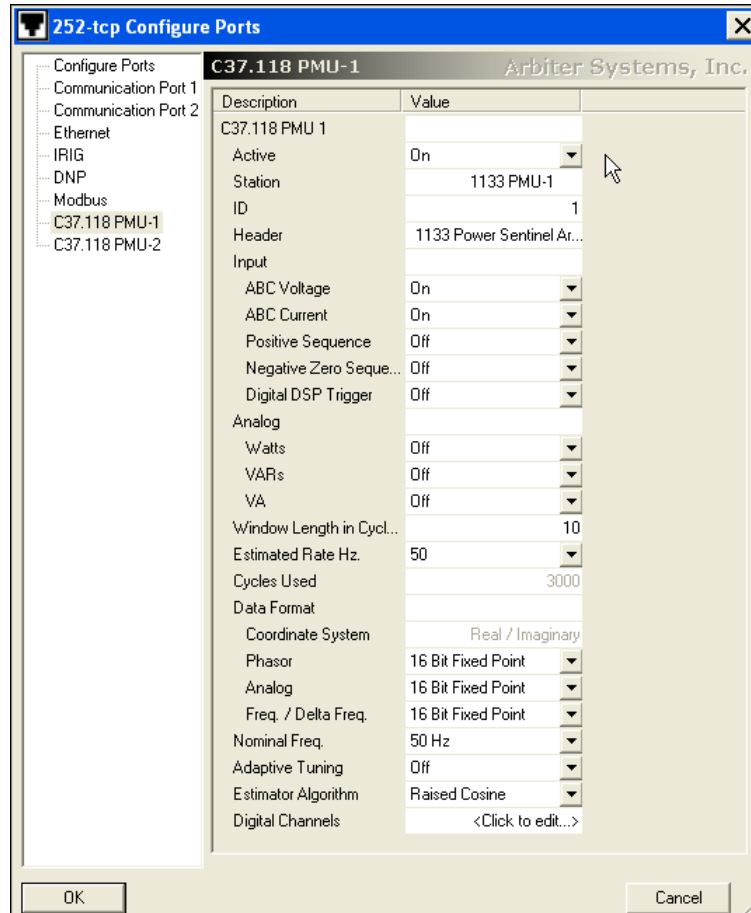

Figure 7.9: PMU-1 Configuration
The definitions for the terms found in the PMU-1 and PMU-2 setup window are shown in Figure 7.9. Open the window by selecting Connection > Configure > Communication
The following example should illustrate how to set up the 1133A using PSCSV™ for specific synchrophasor data type, using the data found in Figure 7.9. Before actually setting up the synchrophasor window, make sure to first configure the Nominal Frequency on the form.
4. PMU-1 was selected (see Figure 7.9) and start at the top
UDP Broadcast mode configures the 1133A to transmit selected data items over the 1133A Ethernet port at the following rates: (1) Waveform data are broadcast at 20 times per second (2) C37.118 Synchrophasor Data is broadcast according to Estimated Rate in PMU-1 or PMU-2 setup (see Figure 7.9), (3) all the others are sent out once per second. Once set up through PSCSV™, the 1133A will broadcast data until it receives a stop transmit command (for certain modes) or reconfigured to stop broadcasting. The UDP setup window shows the available selections for UDP Broadcast.